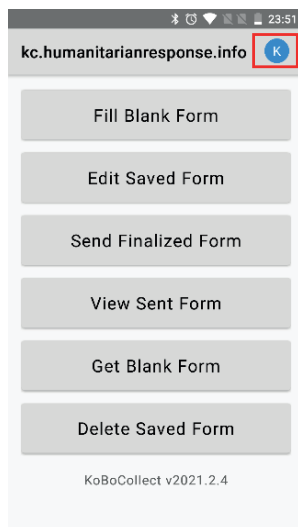
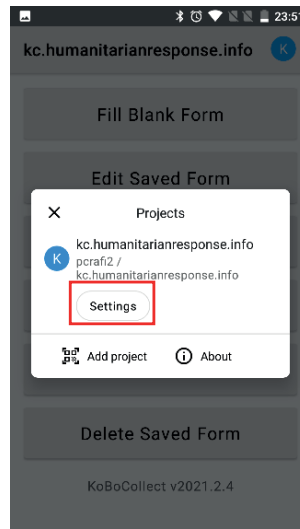

Figure 29: KoBoCollect - Home interface
Figure 30: KoBoCollect - Accessing Settings
1. Once location settings have been adjusted; click on the KoboCollect application. The following interface will appear. (Figure 29) Click on the icon  on the top right-hand corner of the page, then click on "Settings" (Figure 30).